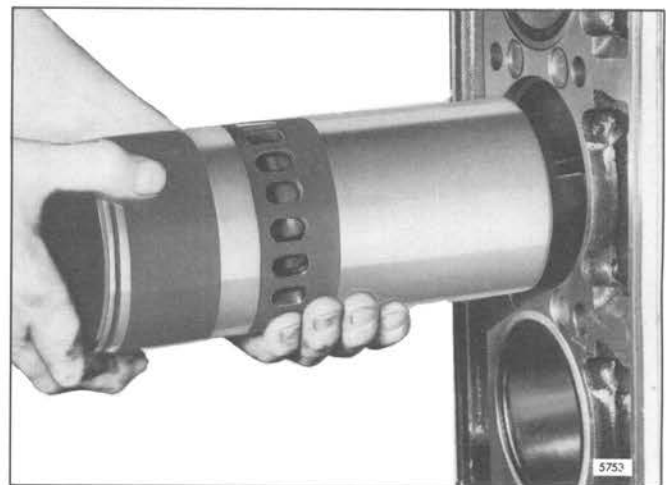

Fig. 9 – Installing Piston, Connecting Rod and Liner Assembly in Cylinder Block
6. Position the piston, rod and liner assembly in front of the cylinder block bore so that the identification number and letter on the connecting rod face the outer edge of the cylinder block and the matchmarks on the liner and the block are in alignment. Guide the end of the connecting rod through the block bore carefully to avoid damaging or dislodging the bearing shell. Then, slide the piston, rod and liner assembly straight into the block bore until the liner flange rests against the insert in the counterbore in the block (Fig. 9).